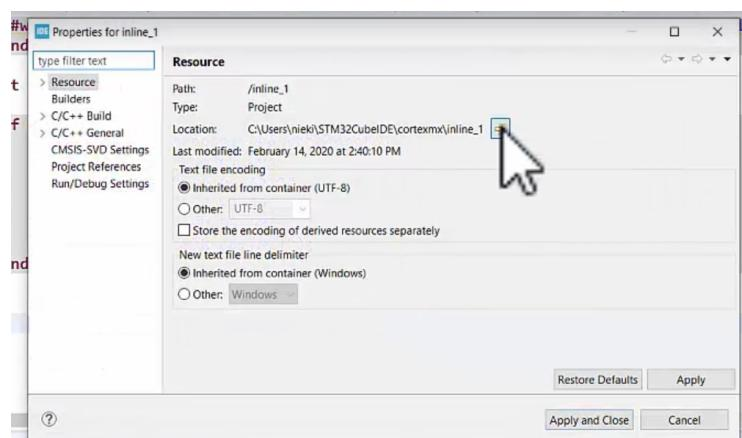

Figure 4.29: Go to file location
- Properties, a pop window will appear as shown in Figure 4.29.